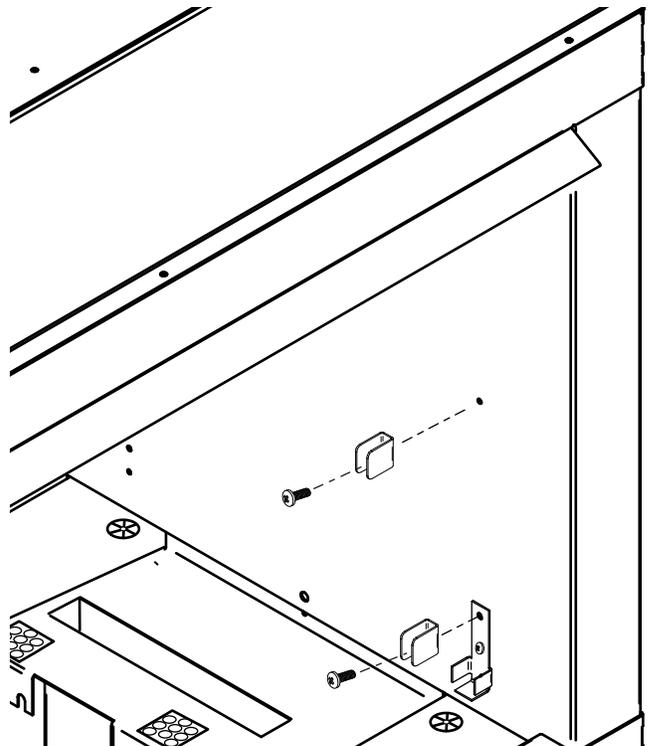

Figure 19 - Installing windshield clips
Step 4: Install the four (4) windshield clips, two on each side, one at the top and one with the LED retainer clip as shown in **Figure 19**.